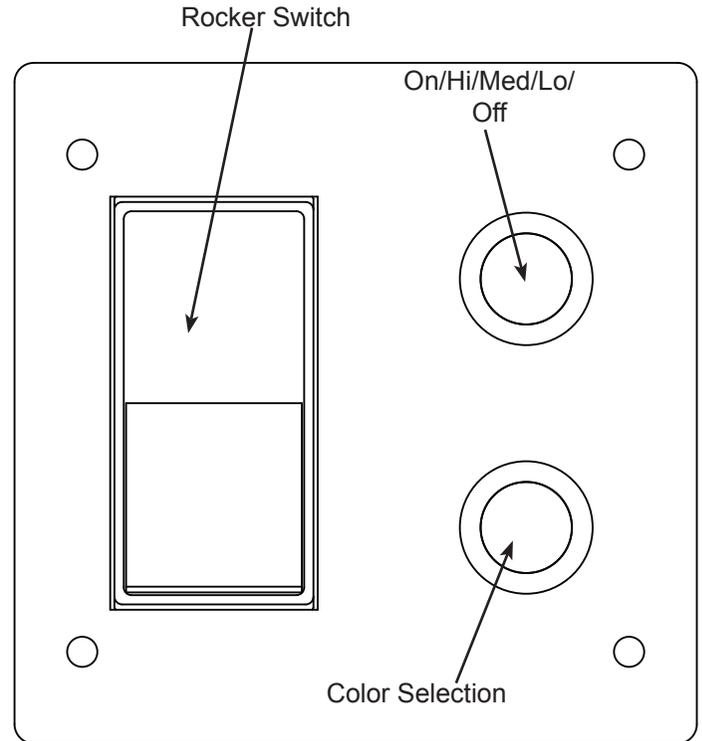

Figure 11 Wall Control Switch (IPIWK)
**NOTE:** The optional IPIWK wall switch kit offers the option to relocate the buttons for LED control into a wall control box as shown in Figure 11.